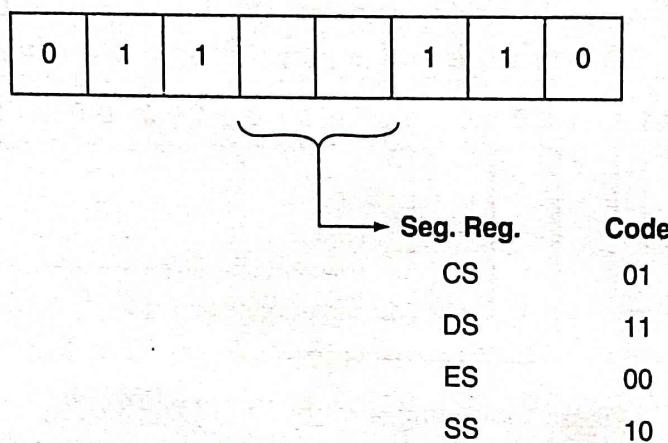

Figure 15 Format of segment override prefix byte.
transfers the contents of memory location with offset address specified by DI register in the extra segment (ES) to the AL register. The coding of this instruction needs an extra byte prefix to the machine code of the instruction to indicate the segment. Format for the segment override prefix byte is shown in Fig. 15 with 2-bit segment register codes.